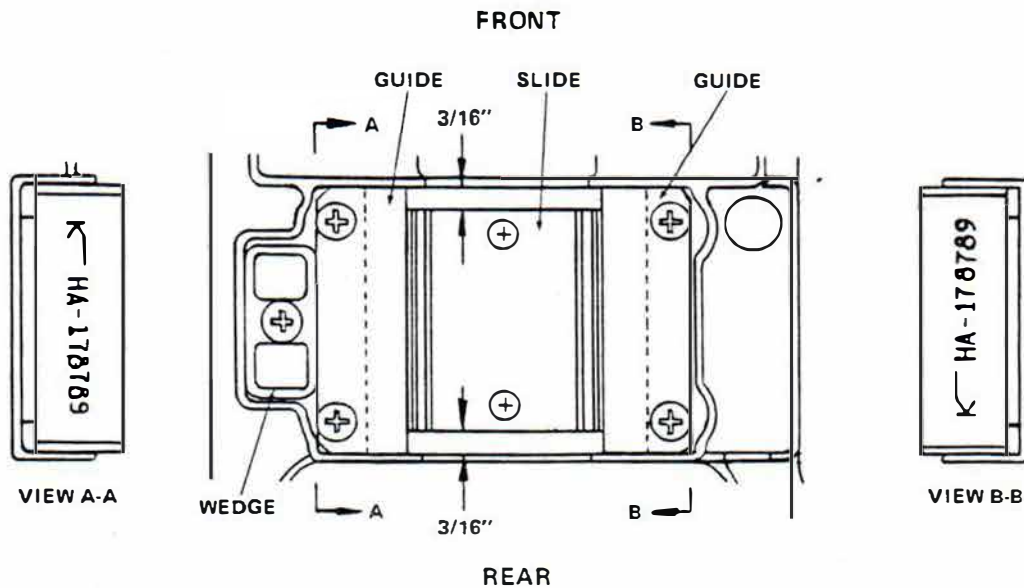

Figure 24. Assembled View of Slide Bracket Assembly
2. See Figure 24. Assemble the two bearing assemblies, two guides, and the slide. Place them, as a unit, into the slide bracket casting. Ensure that the Kirby part numbers and logo on the guides are oriented as shown in views A and B of Figure 24.
4. Position slide as shown in Figure 24 and hold in position. Align ends of bearing assembly to align with ends of slide. Install two phillips head screws handtight into left side guide.